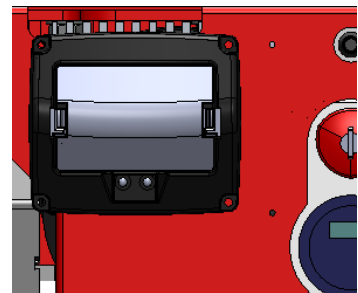

Figure: 9
- Swap the battery in the transmitter with the battery in the battery charger on the back side of the Tracked Carrier (*see figure 9*). The battery in the battery charger on the back side of the Tracked Carrier charges up again when the Tracked Carrier is in use and if the main switch is in the on position. Attention! There is a half circle in the plastic on the battery and another on the battery socket. Make sure these are aligned with each other. Otherwise the battery will be backwards.